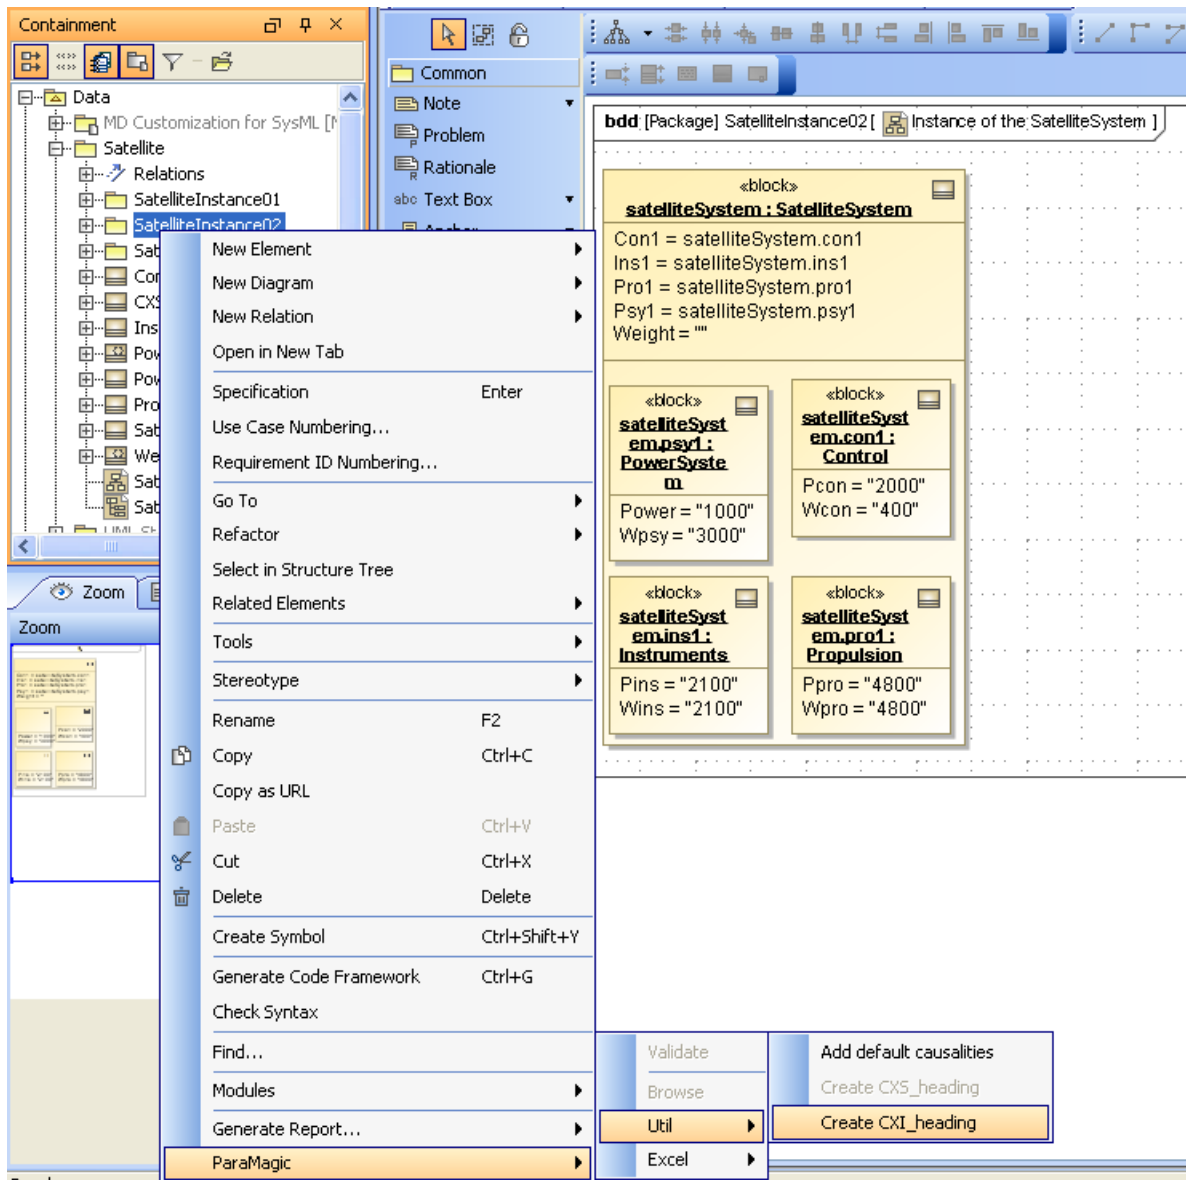

Figure 42 -- ParaMagic Shortcut Menu - Util
6. Right-click the **SatelliteInstance02** package in the browser and select **ParaMagic > Util > Create CXI_heading** (Figure 42).